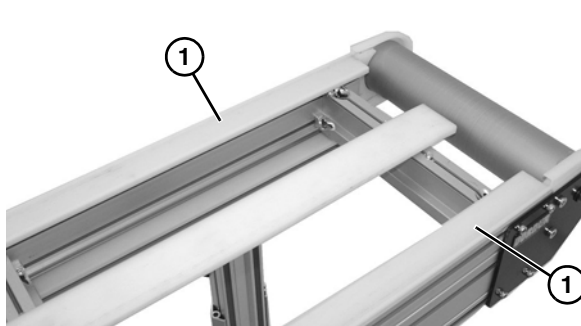

Figure 33
1. Remove upper wear strips (Figure 33, item 1) from top of frame assembly.